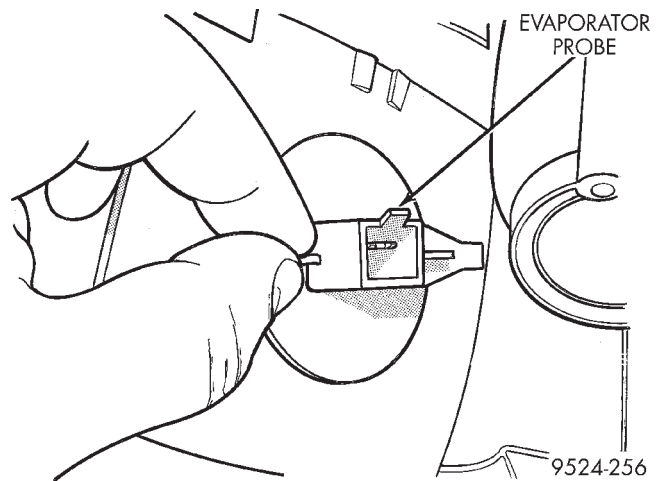

Fig. 42 Evaporator Probe
(4) Using a flat blade pry tool, pull back on the locking tab. Twist the access plate clockwise one-quarter turn and remove plate (Fig. 42).